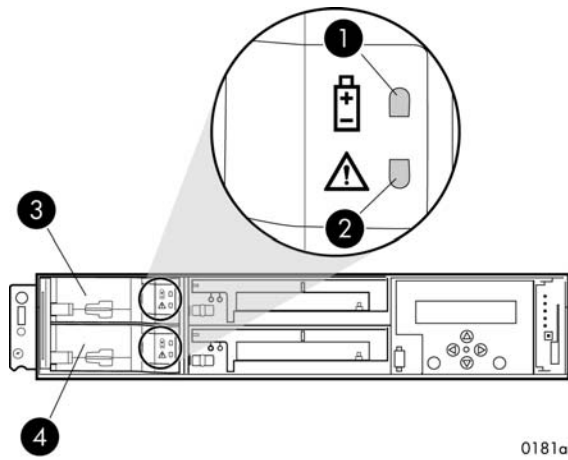

Figure 38 Battery status indicators
- Check the battery status indicators. See Figure 38. The battery fault indicator should be on. To view the status indicators it is necessary to remove the front panel as described in Removing a blower.